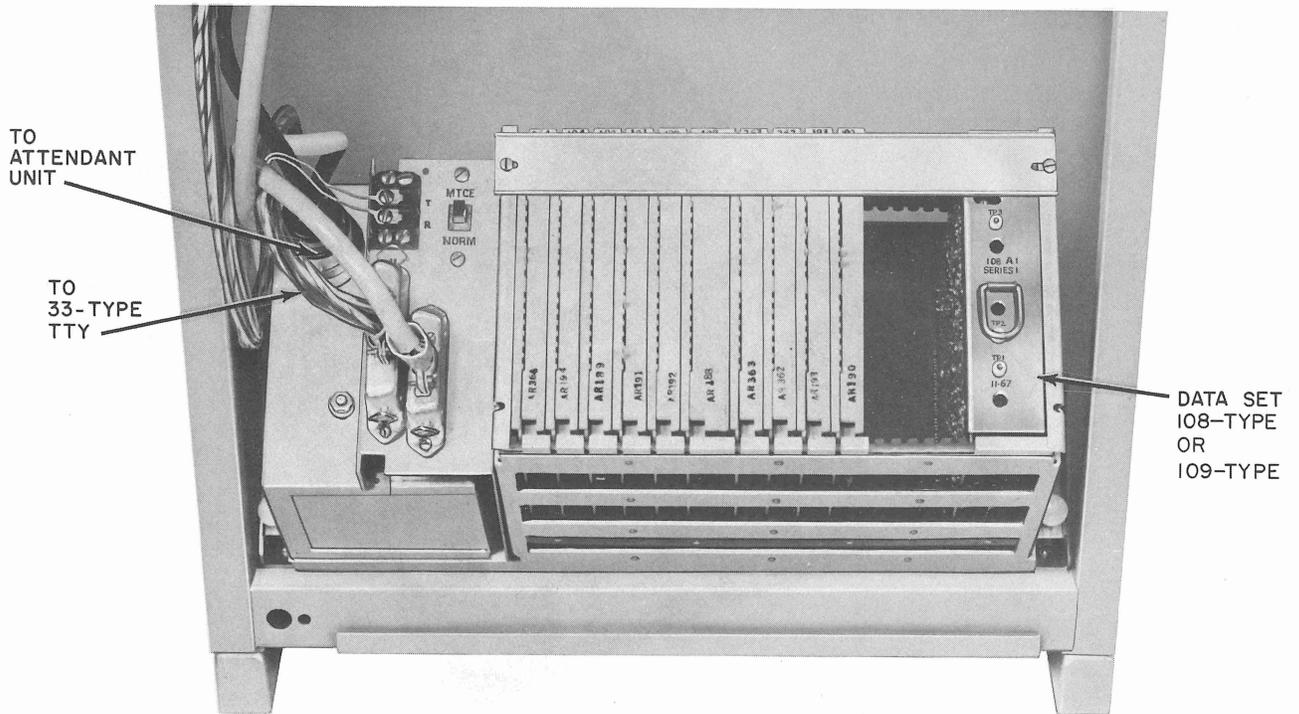

Fig. 11—Data Auxiliary Set 820G1 Mounted in a 33-Type TTY Showing the Maintenance Position
**Note:** When the DAS 820G- or 820J-type is mounted in the 33-type TTY, it can be tilted out of the kneewell into the maintenance position (Fig. 11) by pivoting the data auxiliary set on the 91A bracket. This allows better access to the data auxiliary set for checking or removing the circuit packs.